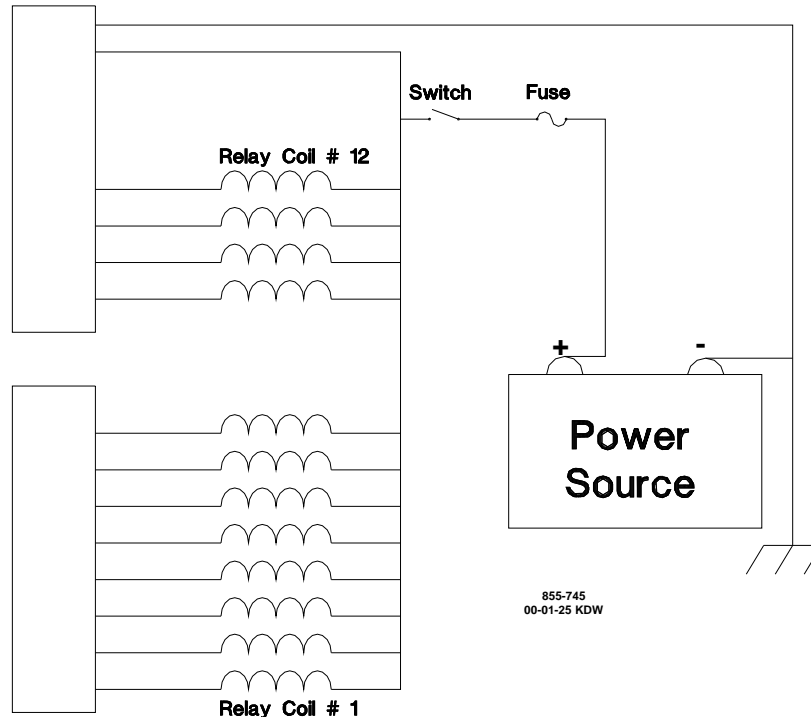

Figure 4-2. Discrete Output Wiring Example
- Refer to Figure 4-2 for discrete output wiring.